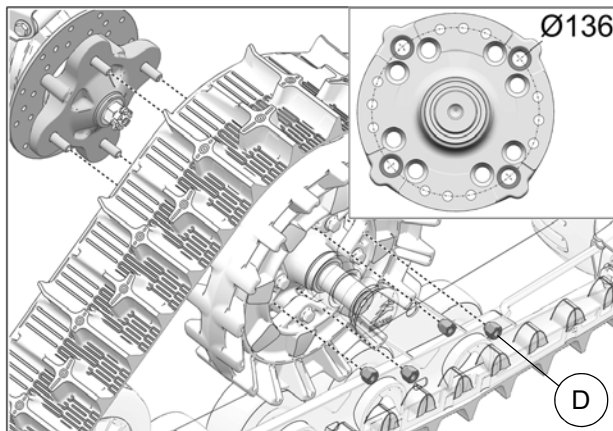

Fig. 11
- Secure undercarriage to rear hub using the provided M10 lug nuts (D). Use bolt circle $\text{\O}136$ mm. See Fig. 11